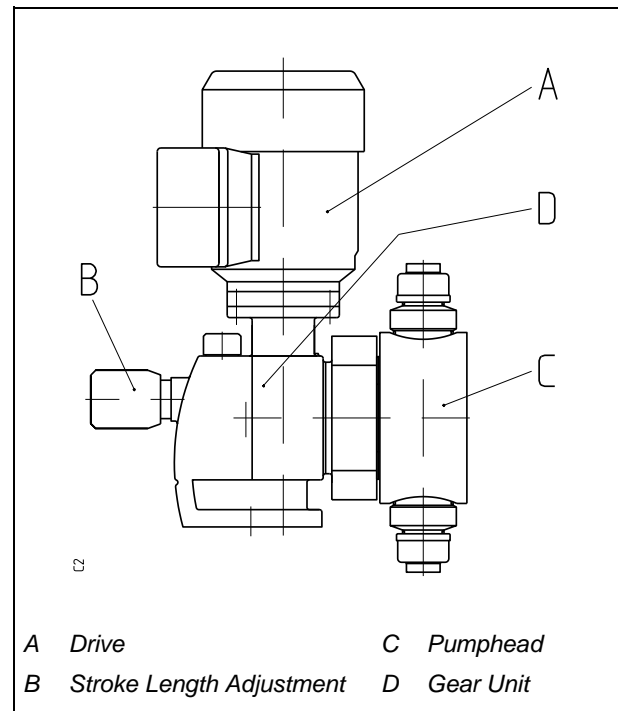

Fig. 2.1: Metering Pump
Basic components are the drive (A), the stroke length adjustment (B), the pumphead (C), and the gear unit (D) (Fig. 2.1).